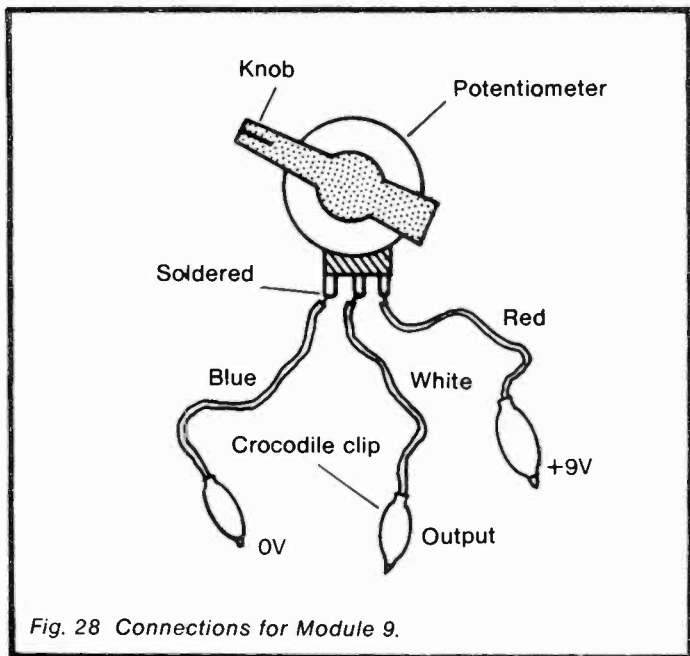

Fig. 28 Connections for Module 9.
**Stripboard layout:** no stripboard required. If the connections are as shown in Figure 28, O/P of the central terminal increases as the knob is turned clockwise.